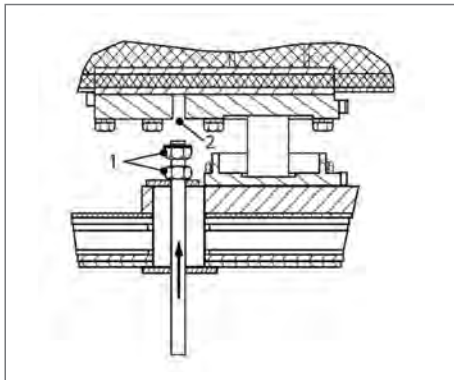

Figure 74
3. Screw two nuts and a washer (Fig. 74 | 1) onto the threaded rod and screw the threaded rod into the threaded hole (Fig. 74 | 2).